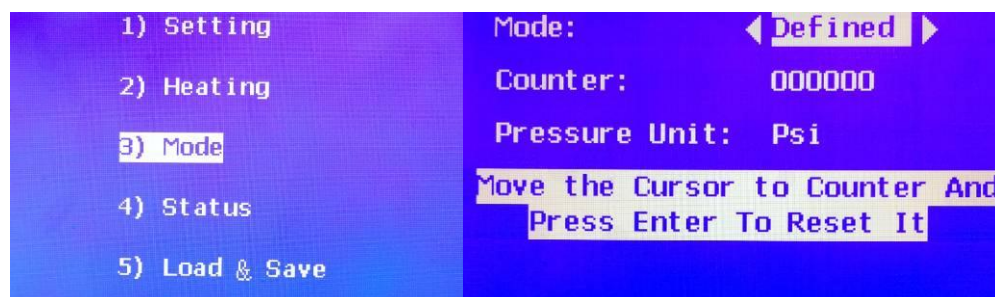

Fig. 11 Mode Setting Sub-menu
2. Use the up / down buttons to select the "Mode" setting on line 1. The mode selection control should now be highlighted, with 2 triangles at both ends pointing towards left and right (see figure 11 below);